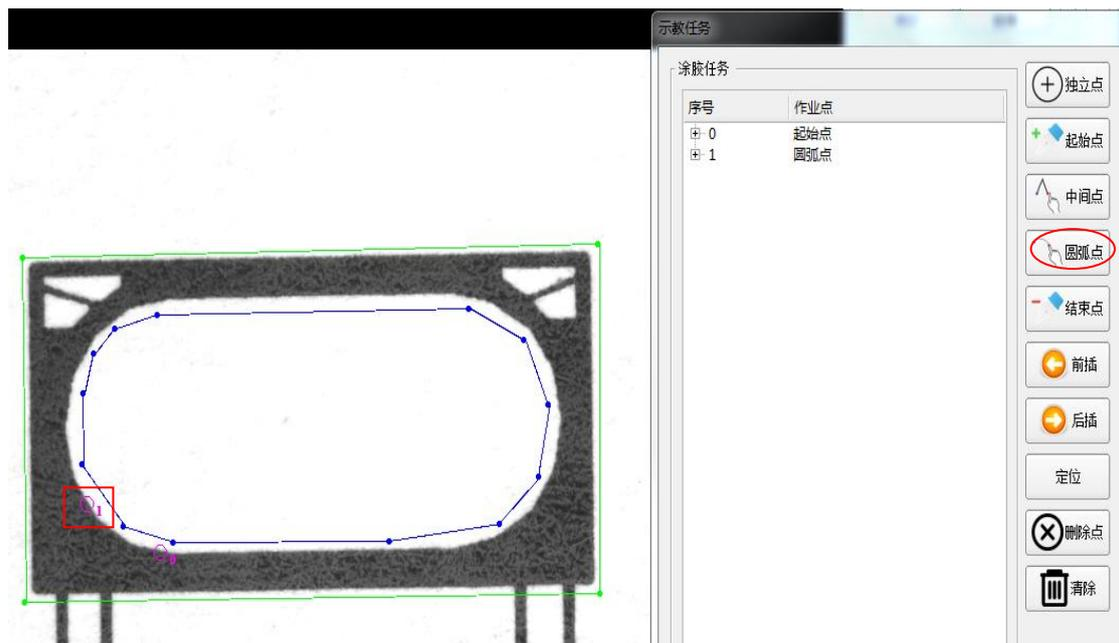

Figure 30 Arc point adding
2) Add the arc point on 45 degrees of the arc line, as shown in Figure 30.